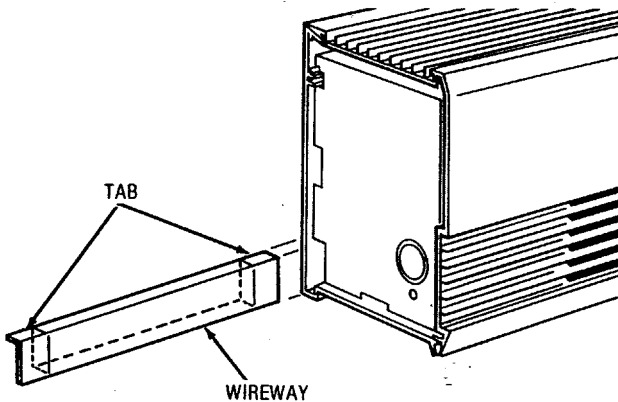

Figure 4
1. Both ends of the wireway have two tabs (Figure 4). These tabs are to be inserted in the rectangular opening at the bottom rear of the junction box. If the wireway is too long as supplied, shorten it and cut new tabs in the shortened end.